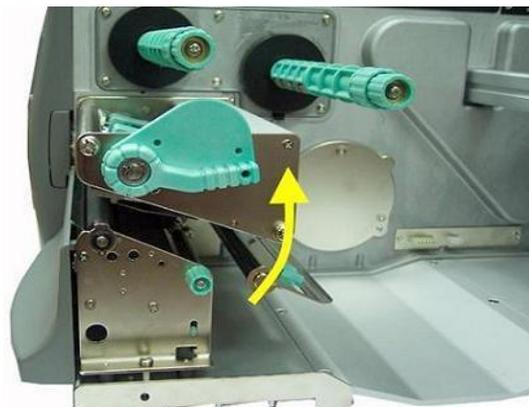

Fig. 9.3.1.a Swivel the printhead pressure lever upward (counterclockwise).
- Slide the material guide to its outermost position. (Compare figure 9.3.1.c).